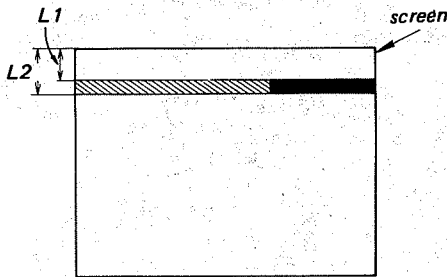

Fig. 4-1.
2. Adjust the display position. (Fig. 4-1)